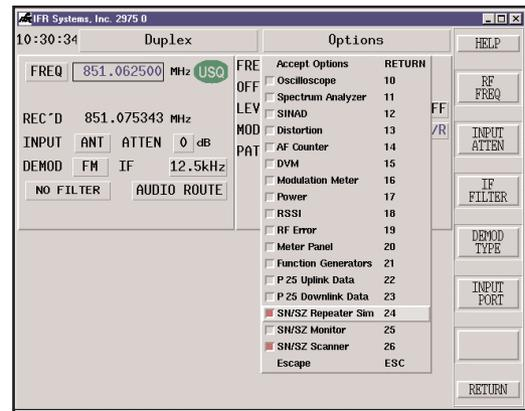

Figure 7.0 Selecting SN/SZ Repeater Simulator
From there, we want to enable the Repeater Simulator. To do this, select the "Options" button next to the Duplex display at the top right of the display or select <SHIFT>,<MODE> and then select item 24 "SN/SZ Repeater Sim". See figure 7.0 for this selection.